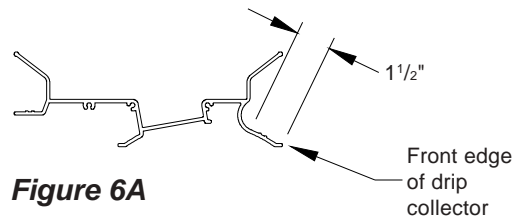
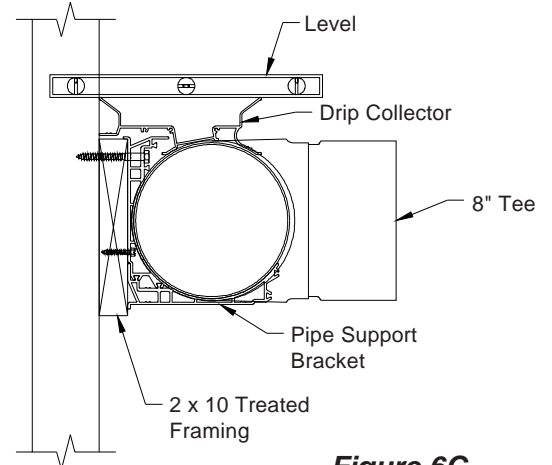

Figure 6A
Figure 6C
8) Starting with a 12'L. drip collector find the center of it and make 2 cuts in the front edge as shown in **Figure 6A & 6B**. Set this drip collector on the 8" pipe with the notch over the 8" tee. Place a level across the drip collector flanges and level drip collector front to back. Also be sure to keep 8" tee level. **See Figure 6C.**